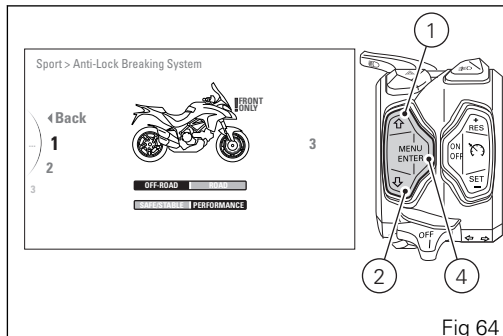
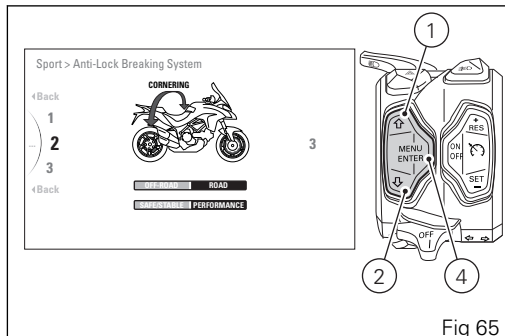

Fig 64
Fig 65
With buttons (1) and (2) select the new level of intervention desired. For each highlighted level, the corresponding paired value in the central table (highlighted with a black background) will be displayed. Furthermore, the braking system intervention level is indicated in Light Blue: the indication "**!FRONT ONLY**" (Fig 64) only for the front active brake, the indication "**CORNERING**" (Fig 65) for the active Cornering function. Once the desired level is highlighted, press button (4) to memorize the new selection. To exit the menu and go back to previous page highlight the "**◀ Back**" indication and press button (4).